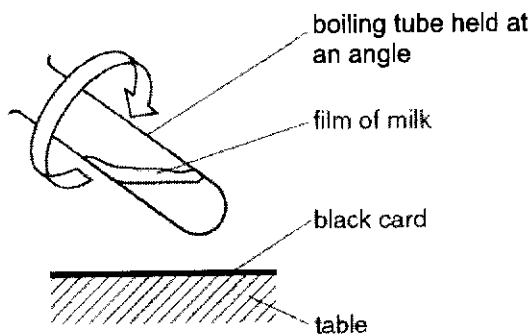

Fig. 1.3
- 11 Hold the boiling tube over a piece of black card on the table as shown in Fig. 1.3.